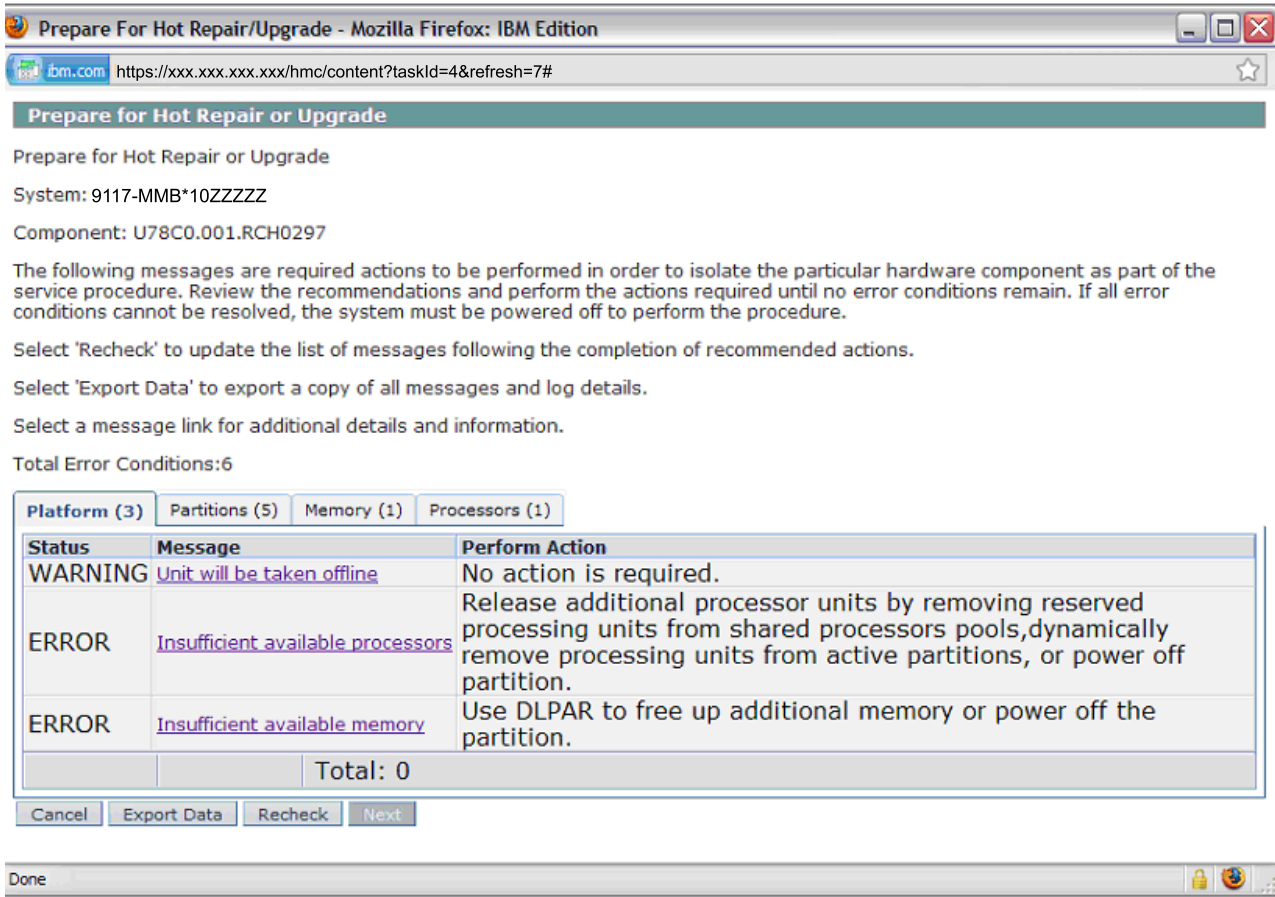

Figure 2. Prepare for Hot Repair or Upgrade Main window
- A window lists the set of actions that must be performed (prior to the CEC hot-node add and hot-node repair maintenance operation) for the node evacuation to be successful. An example of this window is shown in Figure 2 on page 4.